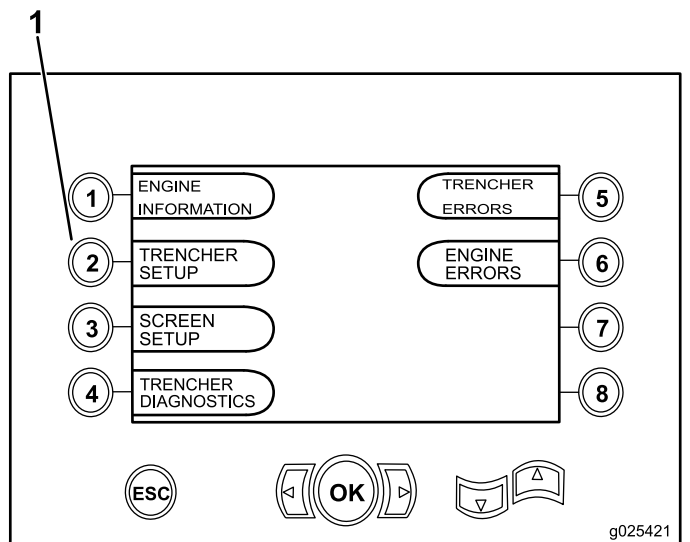

Figure 6
The diagnostic screen (Figure 6) displays.
3. Press 2 to select Trencher Setup (Figure 6).